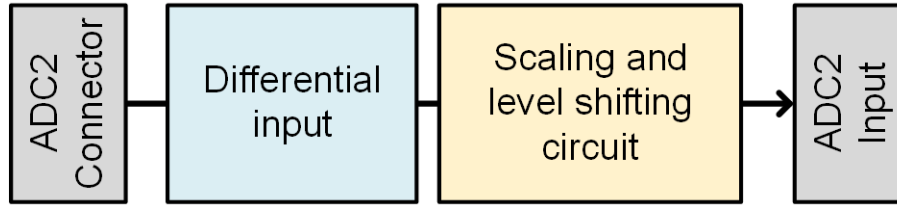

Figure 6. ADC2 measurement chain.
The ADC2 interface is similar to the previously depicted ADC1, except the low-pass filter is eliminated to allow full bandwidth. The signal conditioning chain is highlighted in Figure 6. The input circuit devoted to scaling and level shifting exhibits the same gain as shown in equation (1). Each analog input is configured as differential. Moreover, all channels can be configured independently for unipolar or bipolar input. Detailed information available in Table 4.